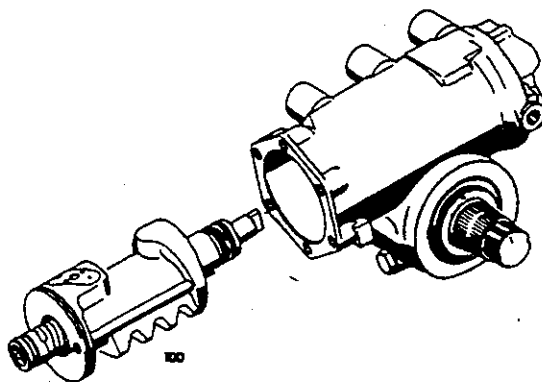

Fig.10
7.1 Draw piston (100) out of housing (1) together with worm (151), turning the steering drop arm which is still mounted on the sector shaft (80) at the same time (*Fig.10*).